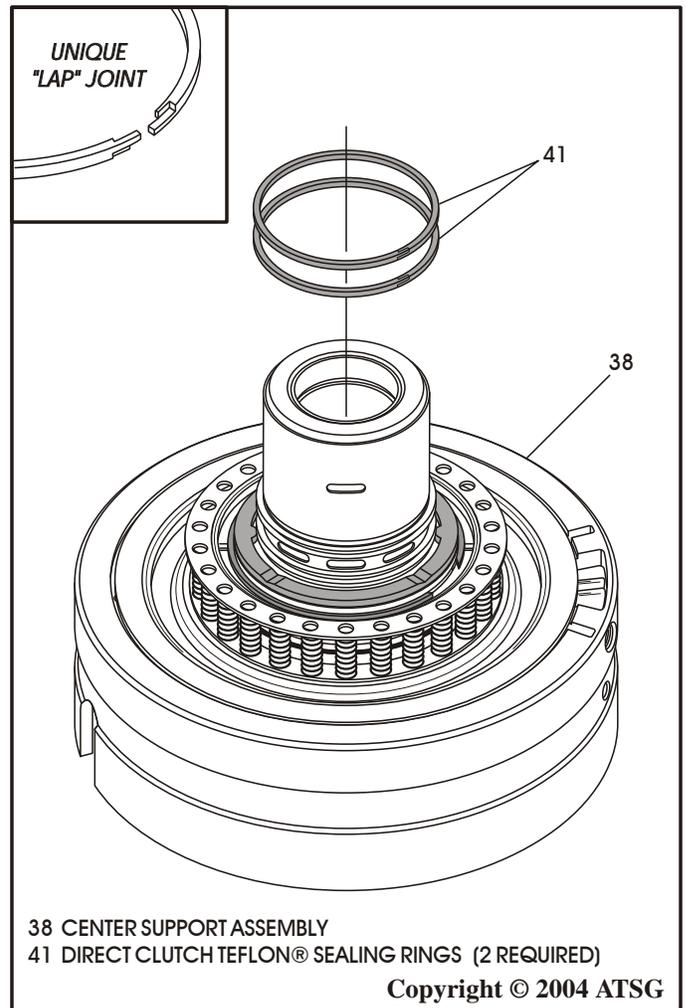

Figure 114
11. Install new direct clutch sealing rings into the grooves in the center support (See Figure 114).
12. Notice that the rings have a "unique" lap joint, as shown in Figure 114, and will require some *special* attention, to ensure that they engage properly.